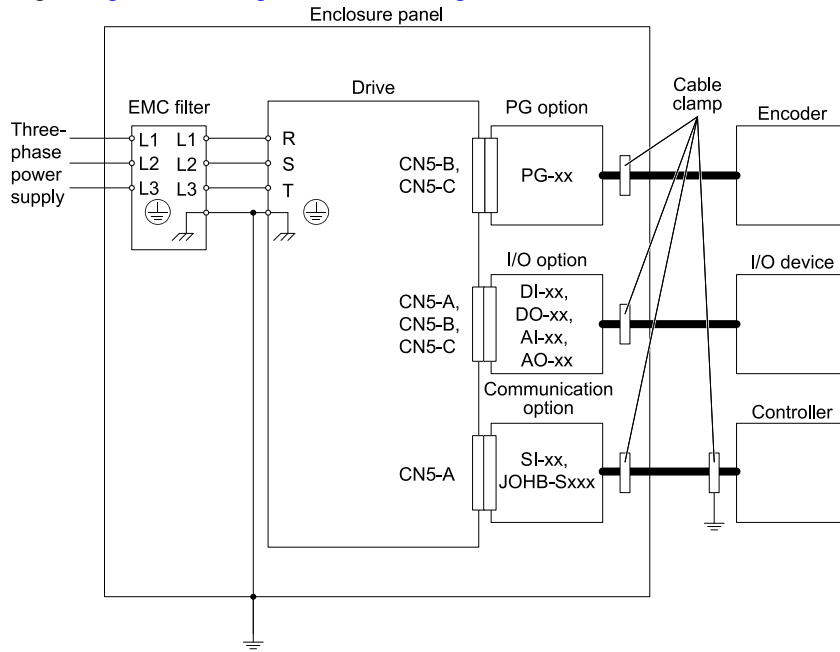
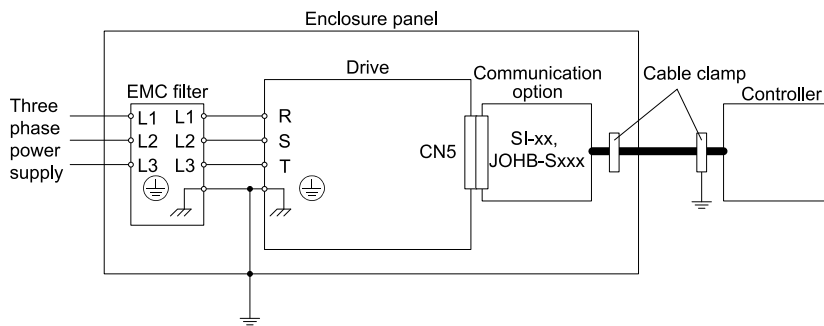
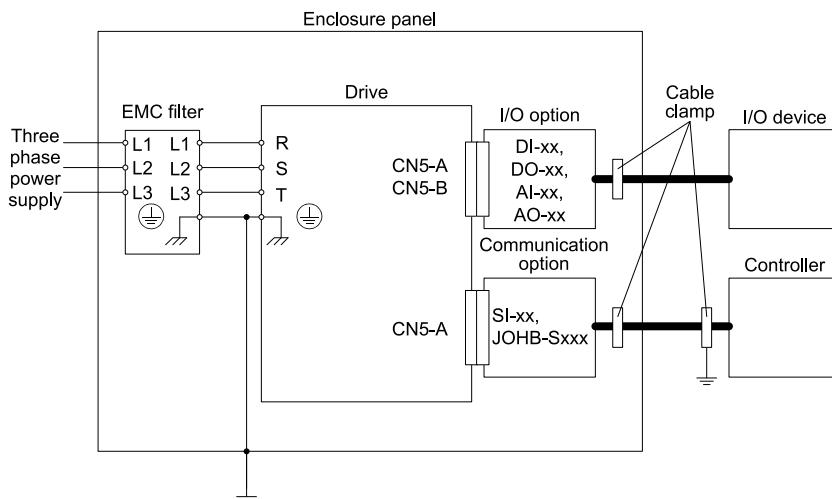

Figure 18.2 Option Installation for CE Compliance: 1000-Series, GA700, GA800, CR700, CH700
Figure 18.3 Option Installation for CE Compliance: GA500, HV600
Figure 18.4 Option Installation for CE Compliance: FP605
- Keep wiring as short as possible and ground the largest possible surface area of the shield to the metal panel according to Figure 18.2, Figure 18.3, and Figure 18.4.